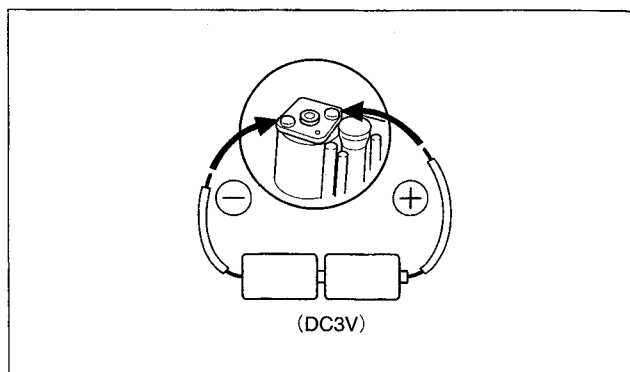

Fig. 2-2-13
- (3) Supply 3 V DC to the electrodes of the motor so that the symbol "P" on the sub cam gear assembly is located in the correct position in the PLAY mode. (See Fig. 2-2-13 and 2-2-14.)